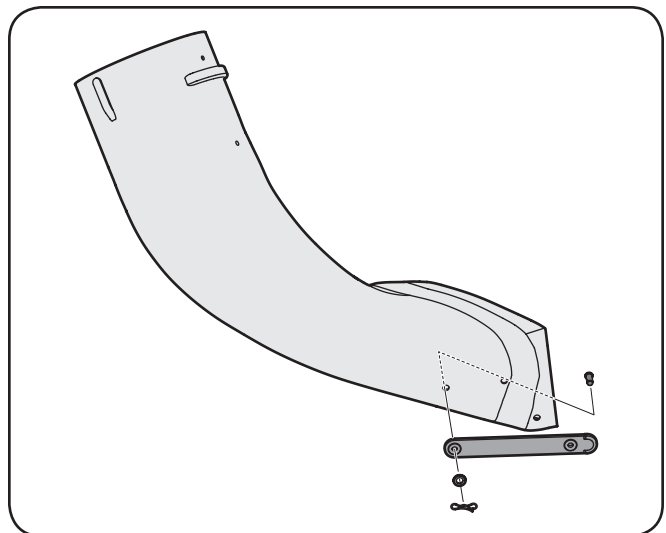

Figure 4-19
9. Install the rubber chute strap on the chute elbow using the supplied clevis pin, washer and Bow-tie cotter pin. See Fig. 4-19.